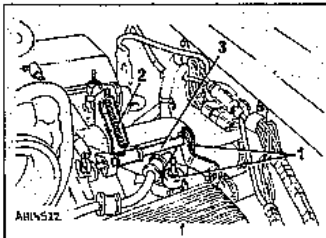

Fig. 13.114 Air cleaner left-hand mounting peg and support bracket (1), throttle return spring (2) and coupling shaft (3) (Sec 10B)
- 7 Undo the mounting peg on the air cleaner left-hand side mounting and remove the coupling shaft support bracket. Detach the throttle return spring and the throttle coupling shaft (Fig. 13.114).